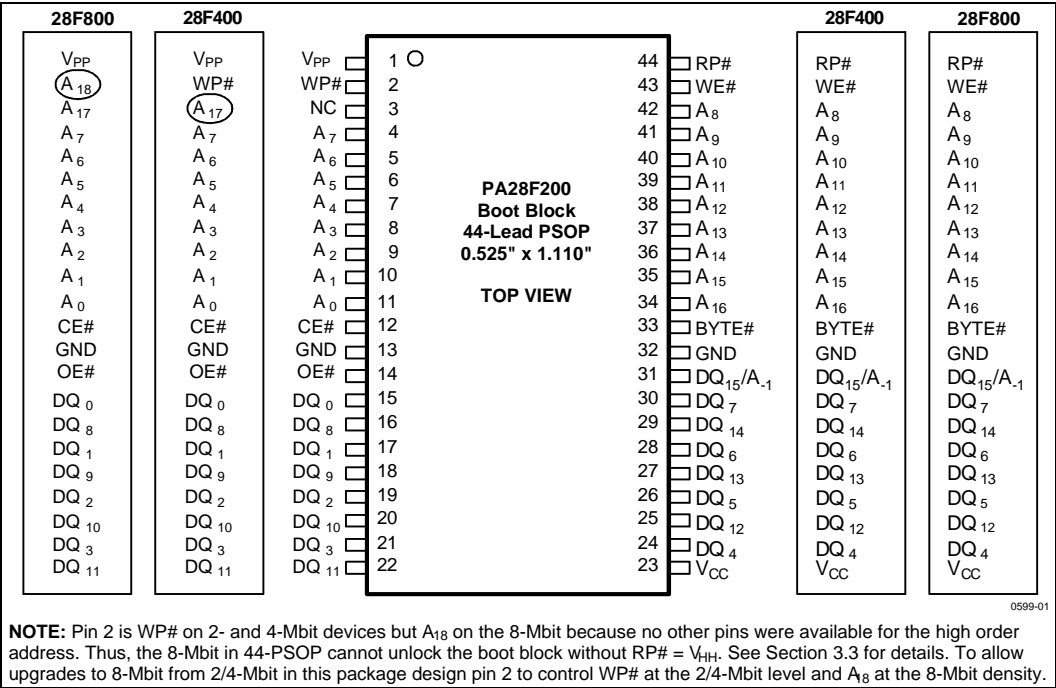
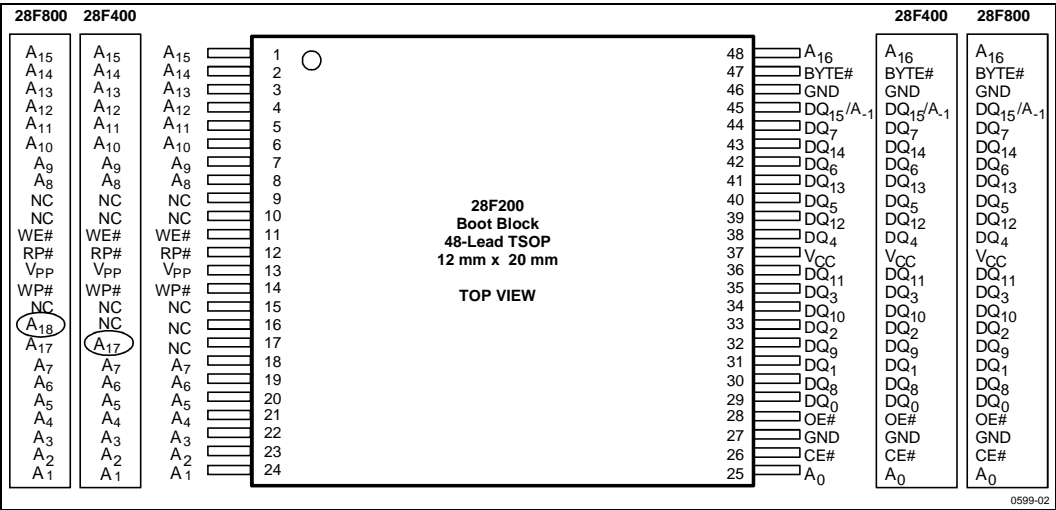

Figure 1. 44-Lead PSOP Pinout Diagram
Figure 2. 48-Lead TSOP Pinout Diagram
-002	Minor changes throughout document. Section 3.1.5 and Figure 14 redone to clarify program/erase operation abort. Information added to Table 2, Figure 1, and Section 3.3 to clarify WP# on 8-Mbit, 44-PSOP. Read and Write Waveforms changed to numbered format. Typical numbers removed from DC Characteristics and Erase/Program Timings.
-003	Minor text changes throughout document. Figure 1, 44-PSOP pinout: mistake on pin 3 on 2-Mbit pinout corrected from A ₁₇ to NC. Specs t _{EHQZ} and t _{GHQZ} improved. Explanations of program/erase abort commands reworked in Table 6, Command Codes.
These Smart 5 memory products are available in the 44-lead PSOP (Plastic Small Outline Package), which is ROM/EPROM-compatible, and the 48-lead TSOP (Thin Small Outline Package, 1.2 mm thick) as shown in Figure 1, and 2, respectively.
Intel's Smart 5 boot block architecture provides upgrade paths in each package pinout up to the 8-Mbit density. The 44-lead PSOP pinout follows the industry-standard ROM/EPROM pinout, as shown in Figure 1. Designs with space concerns should consider the 48-lead pinout shown in Figure 2. Applications using an 8-bit bus can use the 40-lead TSOP, which is available for the 4-Mbit device only.